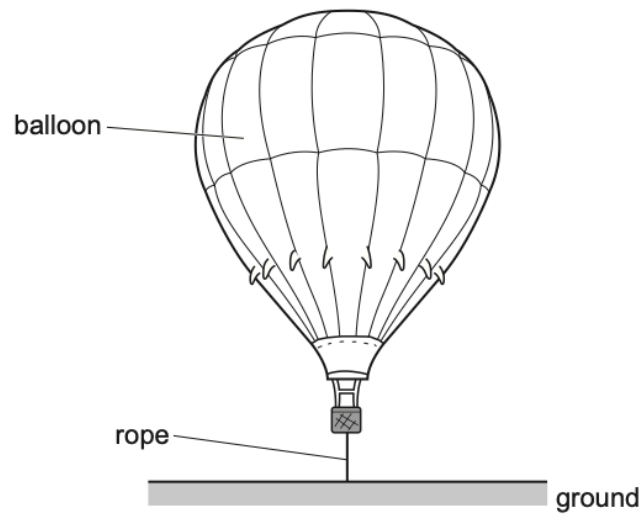

Fig. 2.1
- 12 A hot-air balloon floats just above the ground. The balloon is stationary and is held in place by a vertical rope, as shown in Fig. 2.1.
- (a) (i) On Fig. 2.1, draw labelled arrows to show the directions of the three forces acting on the balloon. [2]